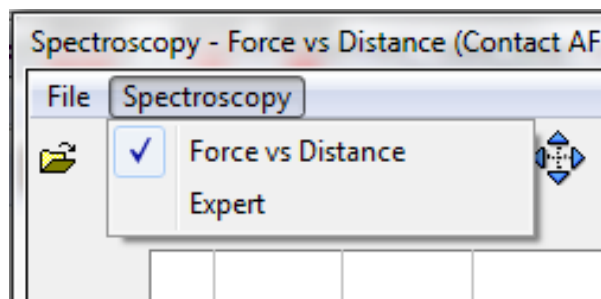

Figure 186 Spectroscopy window showing Force vs Distance selected
- 3 In the Spectroscopy window, confirm **Force vs Distance** for the plot type (Figure 186).